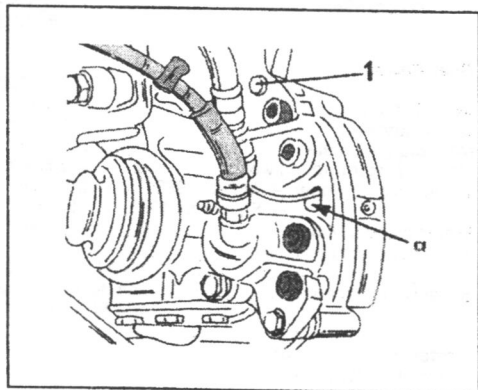
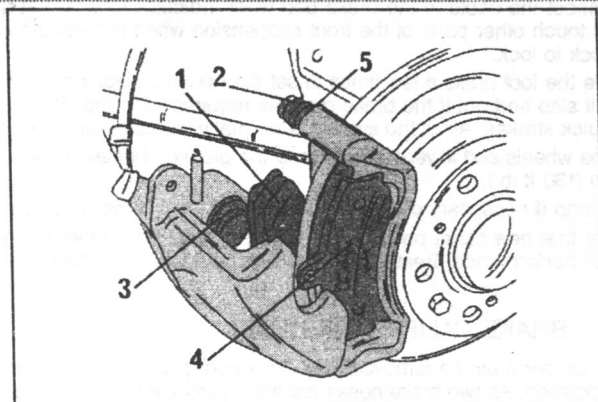

Fig. 8.3. — Details for the removal and installation of a brake caliper.
Fig. 8.4. — After removal of the upper bolt (see Fig. 8.3) swing the caliper downwards to expose the brake pads.
- Refer to Figs. 8.3 and 8.4 to remove a brake caliper. Remove the bolt (1) in Fig. 8.3 with a ring spanner, counterholding the guide bolt (2) in Fig. 8.4 with a second ring spanner or open-ended spanner. The guide bolt must not rotate.
- Swing the caliper downwards into the position shown in Fig. 8.4. The brake pad (1) at the inside and the pad (4) at the outside can now be removed from the caliper.
If the sealing rubbers (5) in Fig. 8.4 are in bad condition, unscrew the guide bolt (2). Clean the bolt and refit it with the new rubber part. The guide bolt is fitted with rubber grease.
- Insert the inner brake pad (1) and the outer pad (4) in Fig. 8.4. The inner pad has the cable for the pad wear indication and must be routed through the opening "a" in Fig. 8.3.
- Hold the guide bolts (2) in Fig. 8.4 with an open-ended spanner and tighten the bolt (1) in Fig. 8.3 to 3.4 kgm (25 ft.lb.).